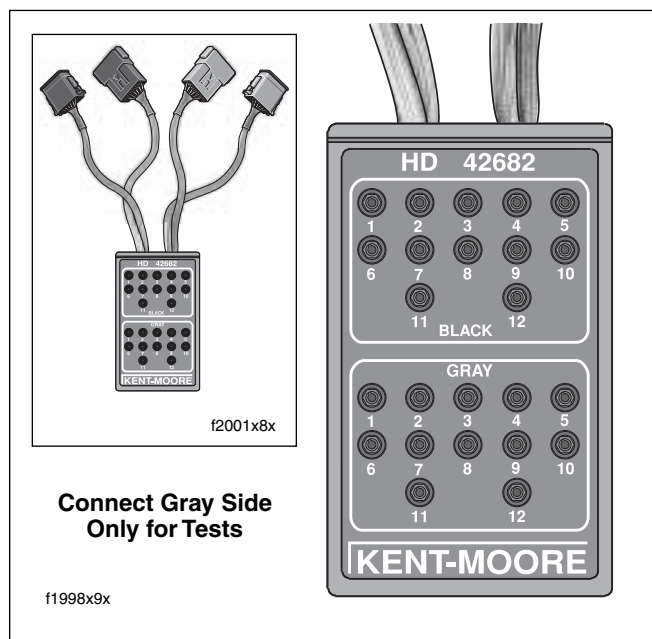

Figure 3-18. Breakout Box (Part No. HD-42682)
3. See Figure 3-18. Attach Breakout Box to connector.